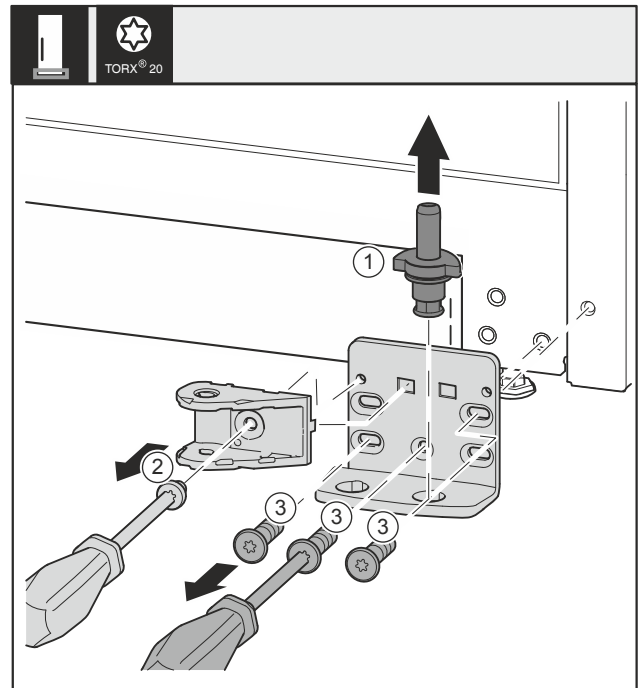

Fig. 32 *
- Pull the bearing bolt Fig. 32 (1) out upwards completely.*
- Use screwdriver to unscrew the screw Fig. 32 (2) and remove the closing damper connection.*
- Use screwdriver to unscrew the screws Fig. 32 (3) and remove the swap bearing block.*